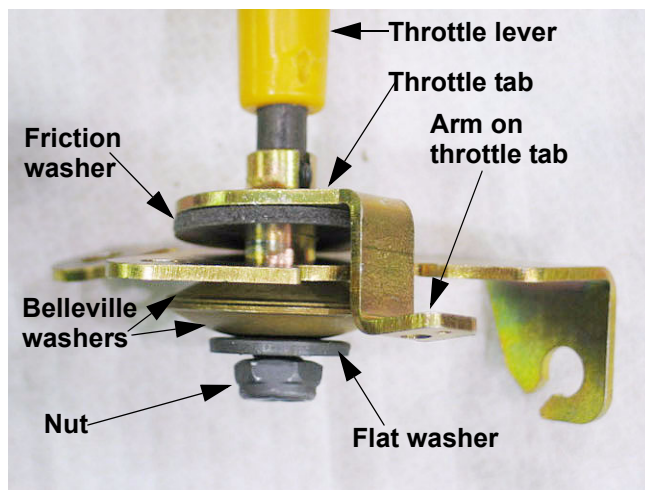

Figure 2.8
- 2.8. The correct order of assembly for the throttle is: throttle tab, friction washer, mounting plate, two bellville washers (face-to-face), flat washer, locking nut. The throttle lever passes through all of these parts, with the ears on the lever engaging the slots in the throttle tab. See Figure 2.8.